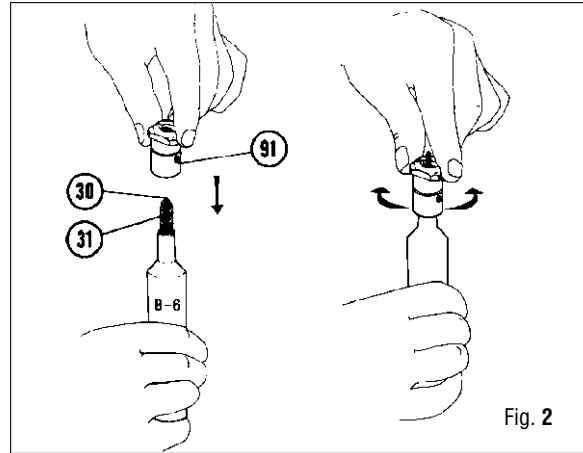

Fig. 2
10. Insert poppet assembly and spring into the poppet housing 91. Align the square stem of the metal poppet body with the square hole of the poppet housing and press inward to compress the spring. (See Fig 2).